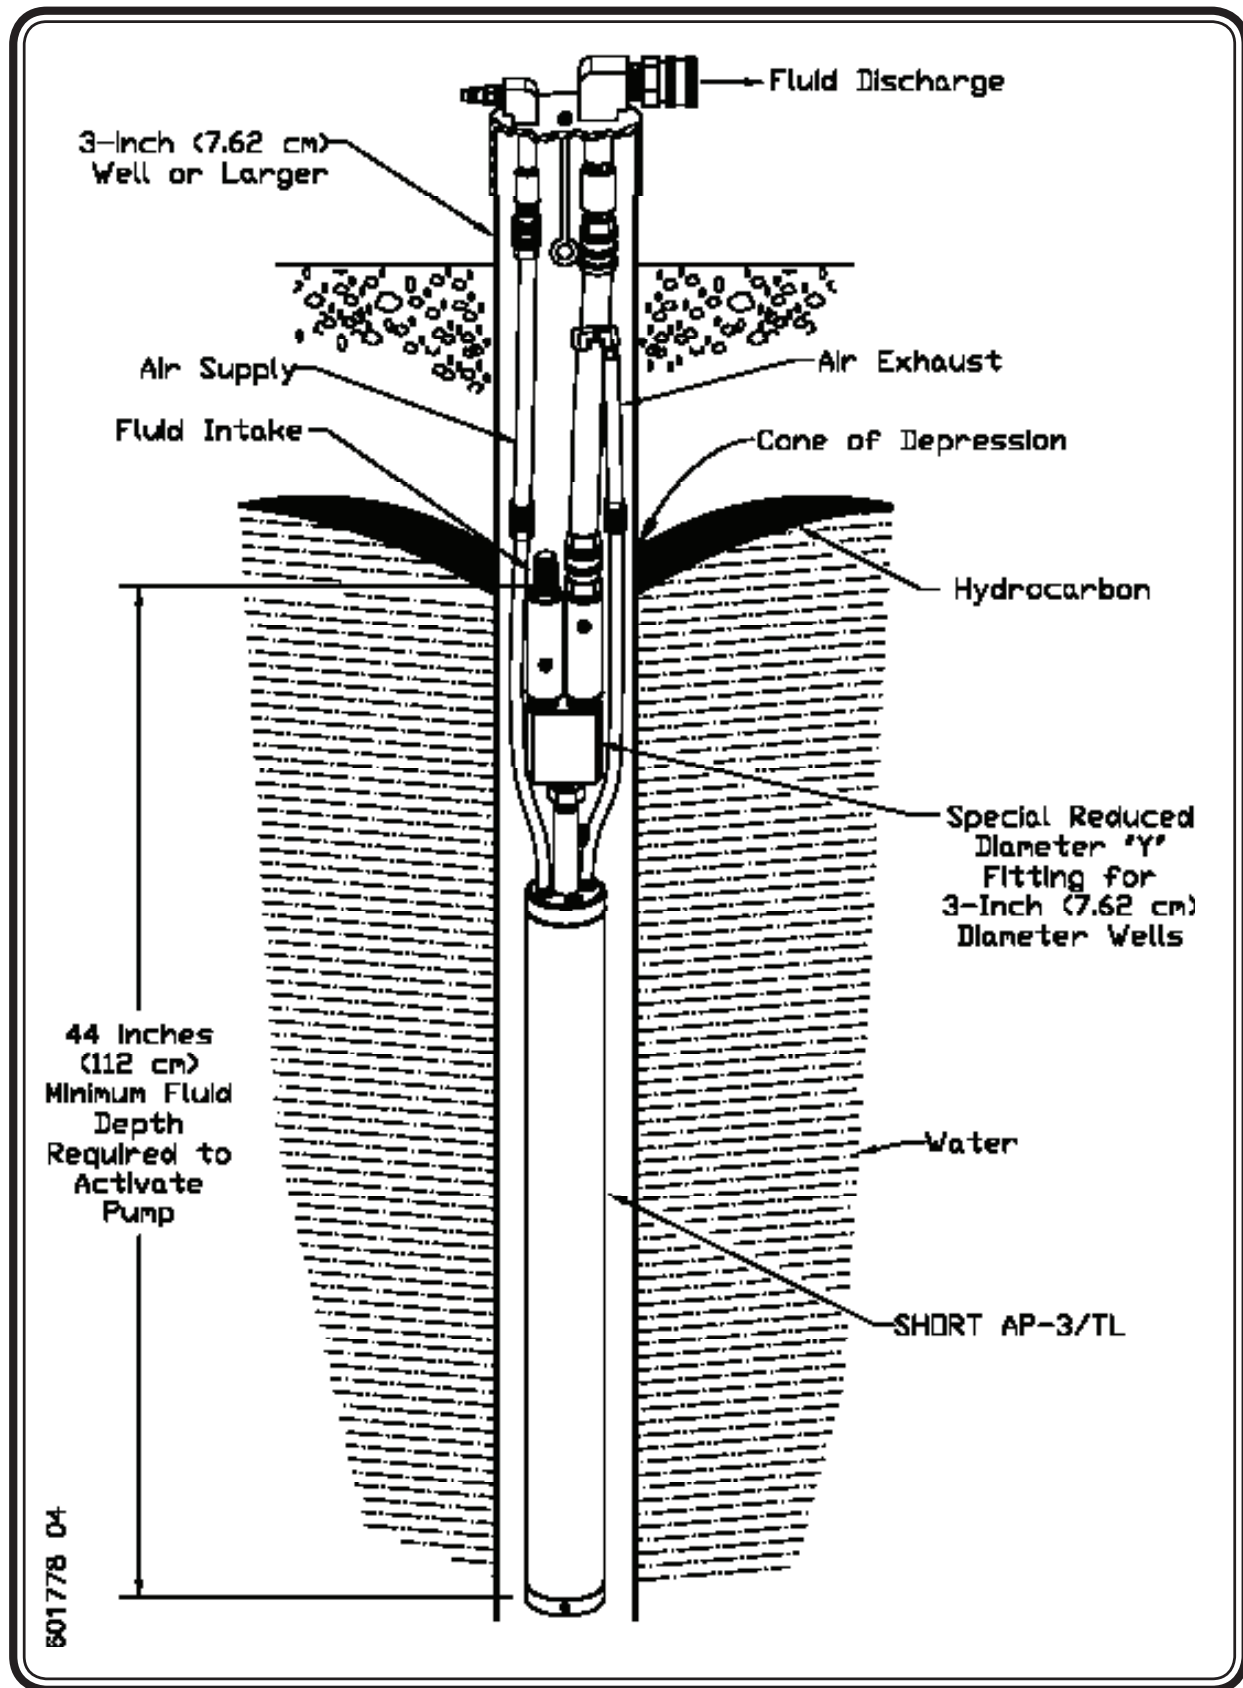

Figure 8 - Short AP-3 Top Loading with Optional Brass “WYE” Fitting
- **Top loading Brass Fluid Inlet Fitting** – This fitting allows a Top Loading pump to fit in a well with an I.D. as small as 3 inches (7.6 cm) (see **figure 8**).